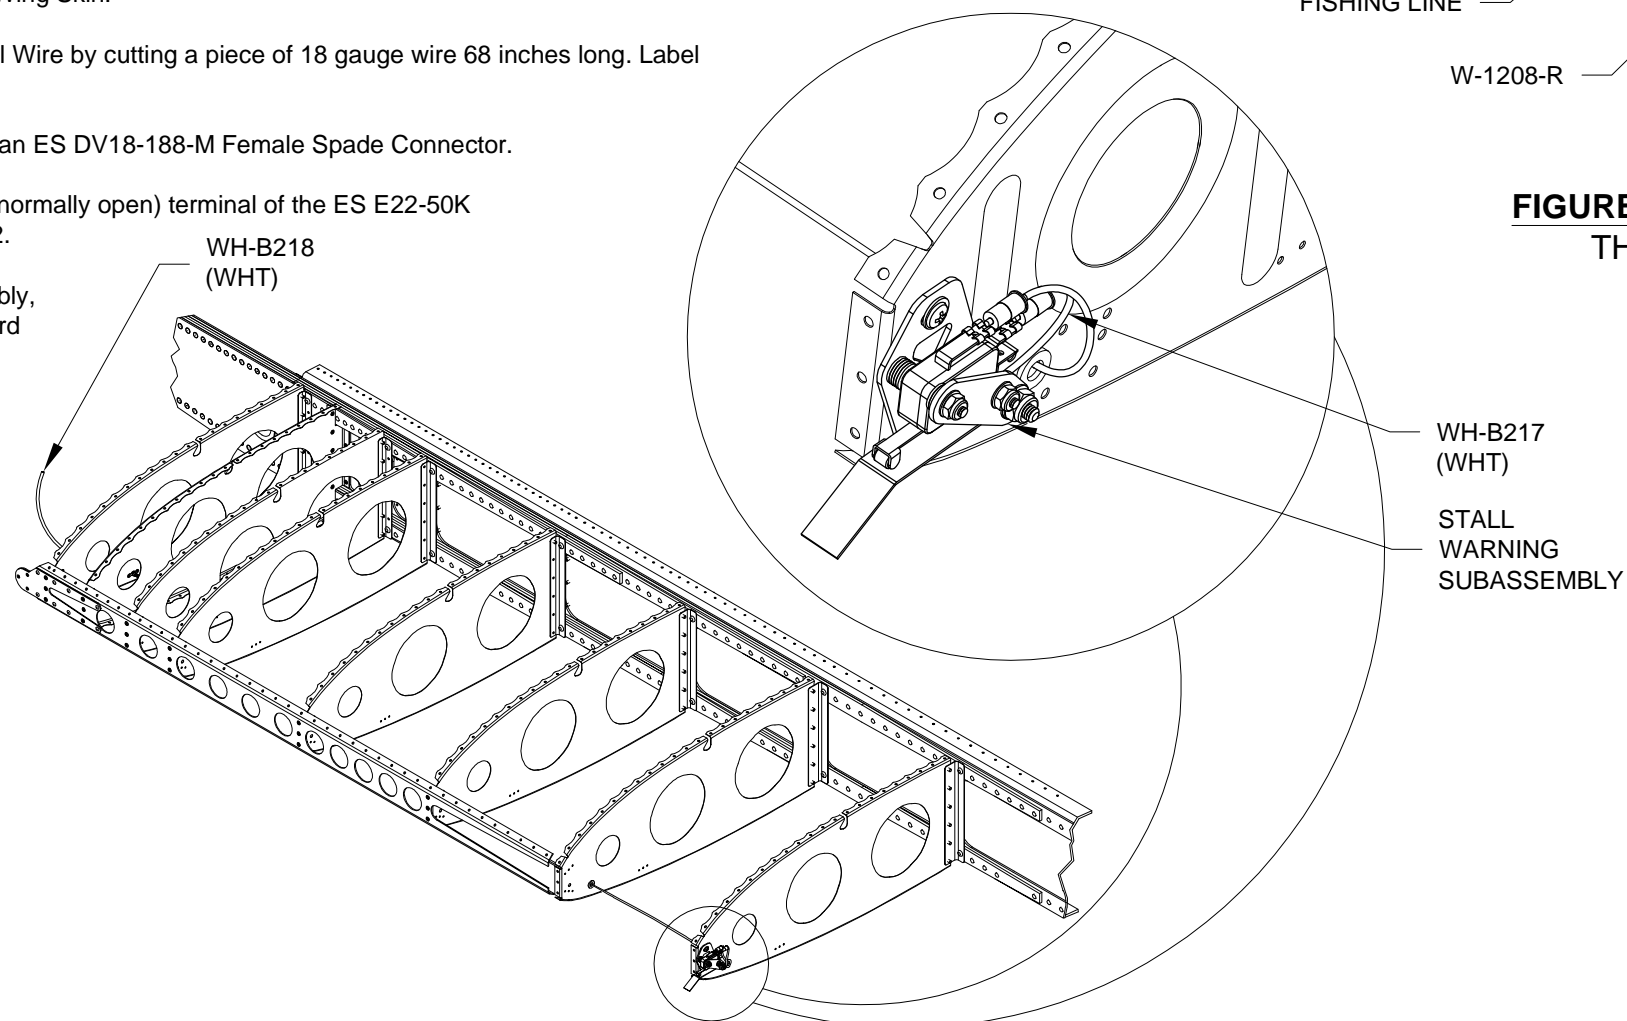

FIGURE 2: WIRE ROUTING
Install the female spade connector to the N.O. (normally open) terminal of the ES E22-50K Micro Switch as shown on Page 16-02, Figure 2.
Step 4: Starting at the Stall Warning Subassembly, route the WH-B218 (WHT) Terminal Wire inboard through the snap bushing in each W-1208 Nose Rib as shown in Figure 2.
Install the WH-B217 (WHT) Ground Wire to the COM. (common) terminal of the ES E22-50K Micro Switch as shown on Page 16-02, Figure 2.